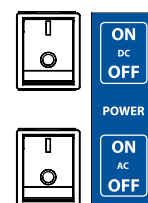

Figure 39. Set Both Power Switches to ON
8. Set both AC and DC power switches to ON (Figure 39).